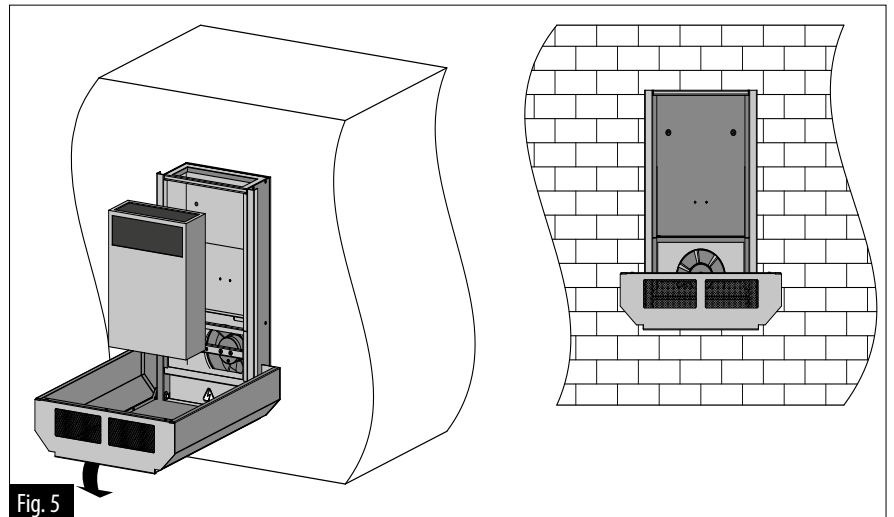

Fig. 5
- Install the NB MICRA 60 outer ventilation hood outer of the building to prevent ingress of large foreign objects into the air ducts, fig. 5.